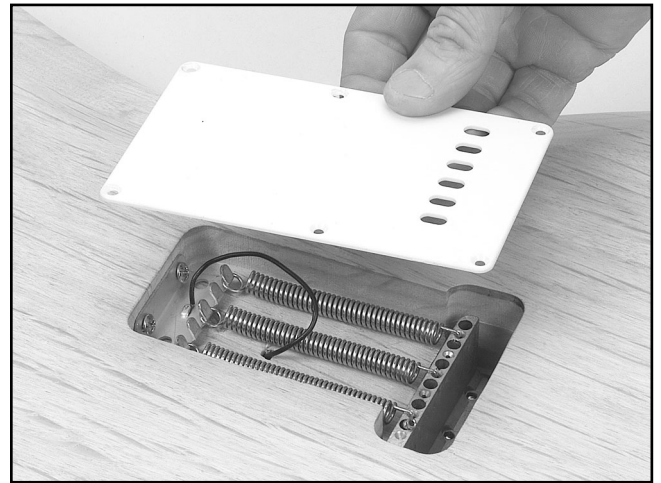

Figure 31. Mounting the back plate.
1. Position the back plate over the cavity in the back of the guitar body as shown in **Figure 31**.